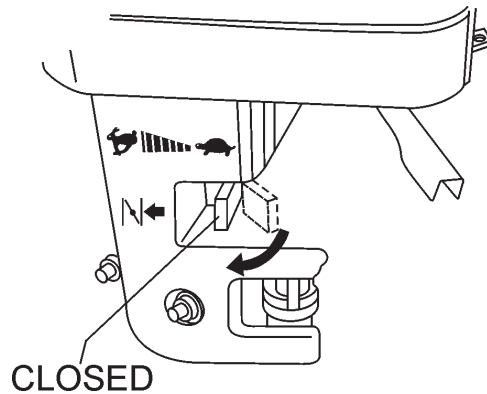

Figure 13. Engine Choke Lever (Closed)
3. Place the **choke lever** (Figure 13) in the "**CLOSED**" position if starting a **cold** engine.